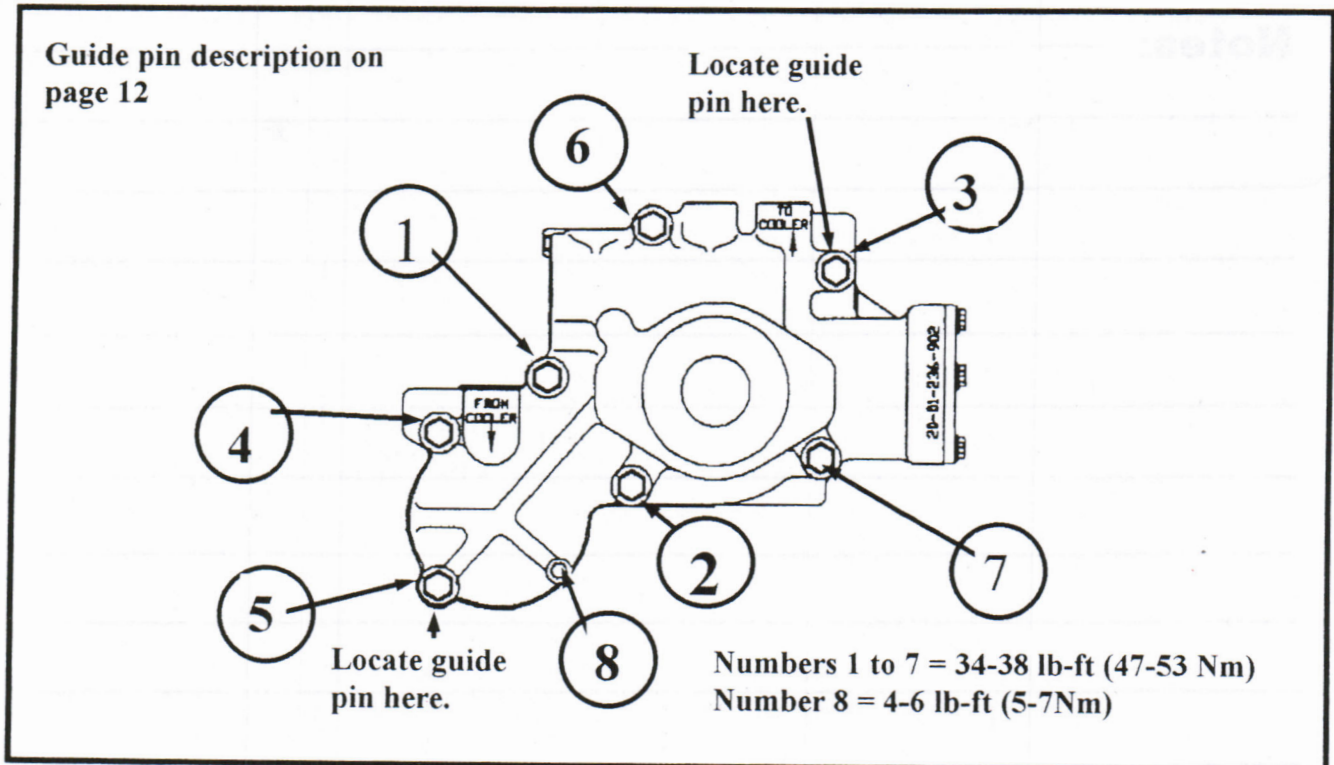

Figure 1-13 Pump housing bolt tightening sequence.
2. Install two guide pins (figure 1-13) in case (160) on opposite sides of the pump mounting surface. Remove the pump assembly from the transmission case.
3. Position gasket (108) on mounting surface.
4. Install o-ring (201) in groove around pump (203) (**o-ring not required with crescent pump**).
5. **Position shim packs (109) determined in section 5-21, page 5-13 of S5000 Down-Angle Service Manual (Form 1351/4-95) on bearing cups (110 & 111).**
6. **Carefully slide the pump assembly over the guide pins and finger tight five bolts (104), remove the guide pins and finger tight the two remaining bolts (104).**